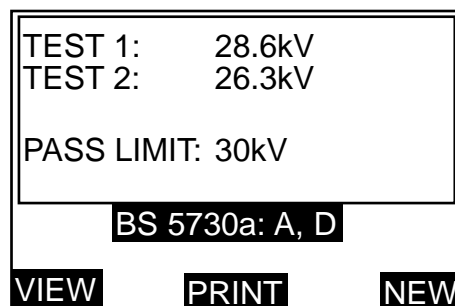

Figure 22. BS5730a Results display screen.
Pressing the left hand key labelled VIEW changes the top half of the display to show the breakdown voltages, together with the pass limit voltage. The display appears similar to figure 22.
14. On completion of the test(s) (1, 2 or 3 may have been performed), the appropriate PASS or FAIL message is displayed. Pressing the right hand key labelled NEW returns to the EQUIPMENT CATEGORY selection display screen. Pressing the left hand key labelled VIEW changes the top half of the display to list the breakdown voltage(s), together with the pass limit voltage. The display appears similar to figure 22.